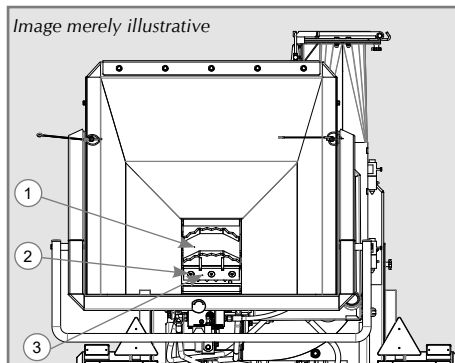

Figure 15
- ✓ The upper roll has knives to aid in feeding the material towards the cutting disk; one must check if such knives are fixed with the correct torque and if they are sharp. To replace or change the knives, consult Figure 15.
- Position the feeding roll (1) so that you have access through the input funnel, and then turn the machine off. Release the 3 screws (2) that fix the knife (3) on the upper roll and perform the exchange or sharpening. Then, reassemble the knife and tighten well the screws, watching out for the knife's cutting line; after conclusion, proceed the same way with the remaining knives of the upper roll, as per Figure 15.